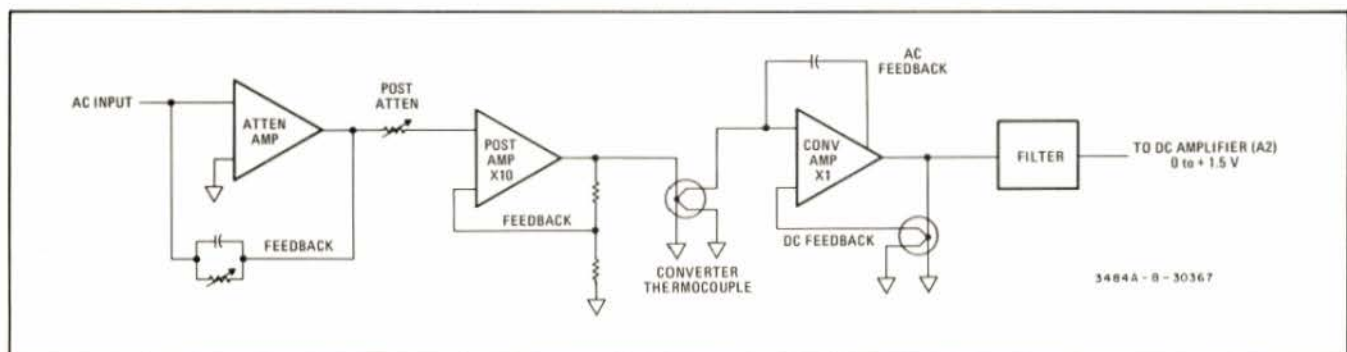

Figure 4-10. True RMS Converter Block Diagram.
shown in Figure 4-10. In the VAC(AC) mode of operation, the input is capacitively coupled; while in the VAC(DC) mode the input is direct coupled, allowing the instrument to measure the total rms value of a signal containing both ac and dc.